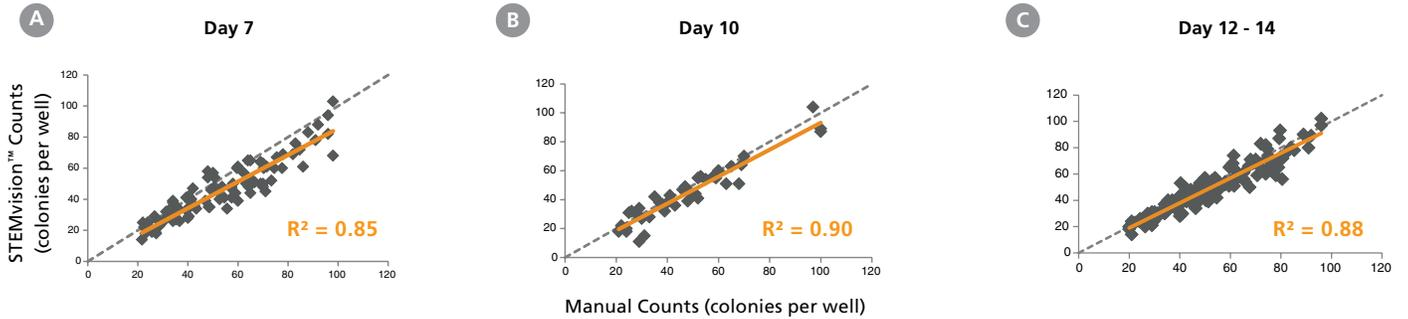

Figure 5. STEMvision™ Automated Counting is Highly Correlated to Manual Counting of Erythroid Colonies in Mouse BM CFU Assays
- For assays using erythroid-specific MethoCult™ SF M3436, the Mouse Erythroid CFU Analysis Package (Catalog #22011) provides a total count of all erythroid colonies (Figure 5).